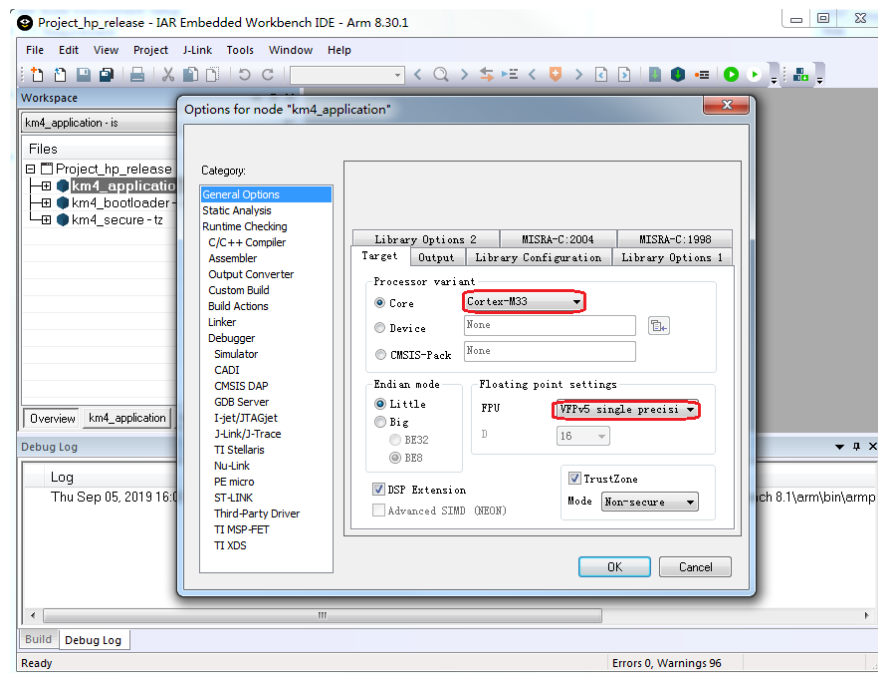

Fig 3-3 KM4 processor options
- (1) Open **amdb_amazon-freertos\projects\realtek\amebaD\IAR\aws_demos\Project_hp_release.eww**.
- (2) Refer to 3.3.1 and choose the build configurations for each project according to your application.
- (3) Click **Project > Options, General Options > Target > Processor Variant > Core**, verify the CPU configurations according to Fig 3-3.